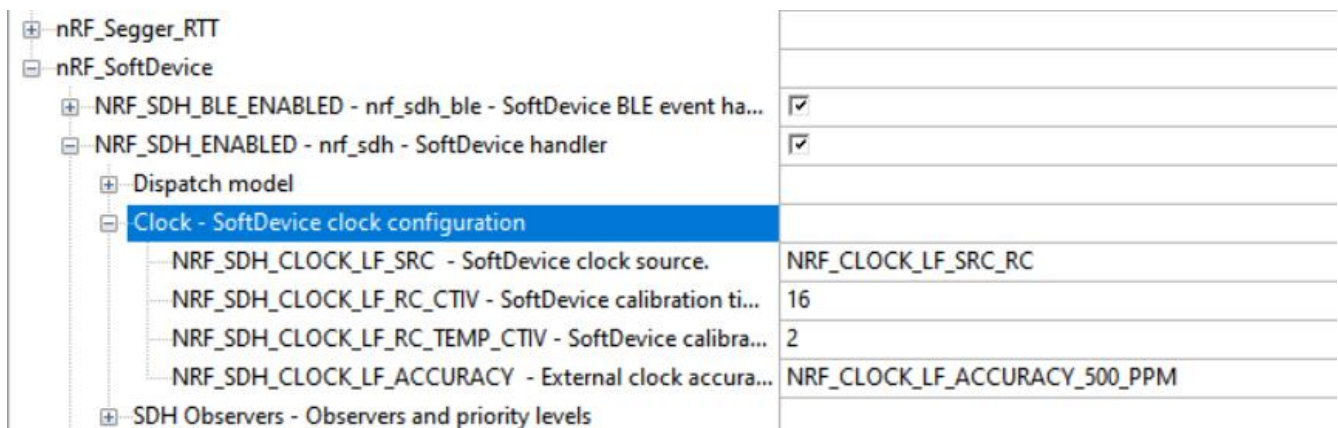

Figure 2-10 NRF_SDH_ENABLED
c. Unfold "nRF_SoftDevice" -> "NRF_SDH_ENABLED" -> "Clock - SoftDevice clock configuration" Make the changes as shown in Figure 2-10